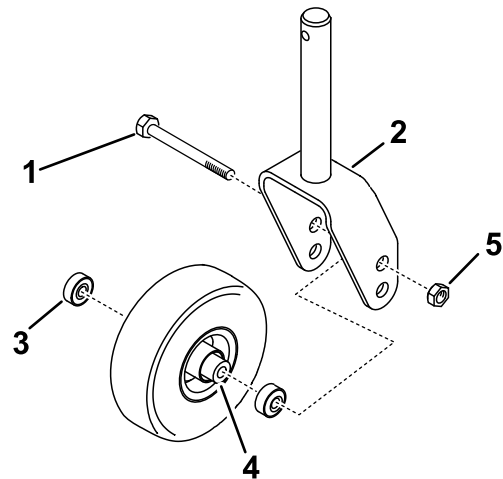

Figure 32
2. Remove the locknut from the bolt holding the caster wheel assembly between the caster fork (Figure 32). Grasp the caster wheel and slide the bolt out of the fork or pivot arm.
3. Remove the bearing from the wheel hub and allow the bearing spacer to fall out (Figure 32). Remove the bearing from the opposite side of the wheel hub.